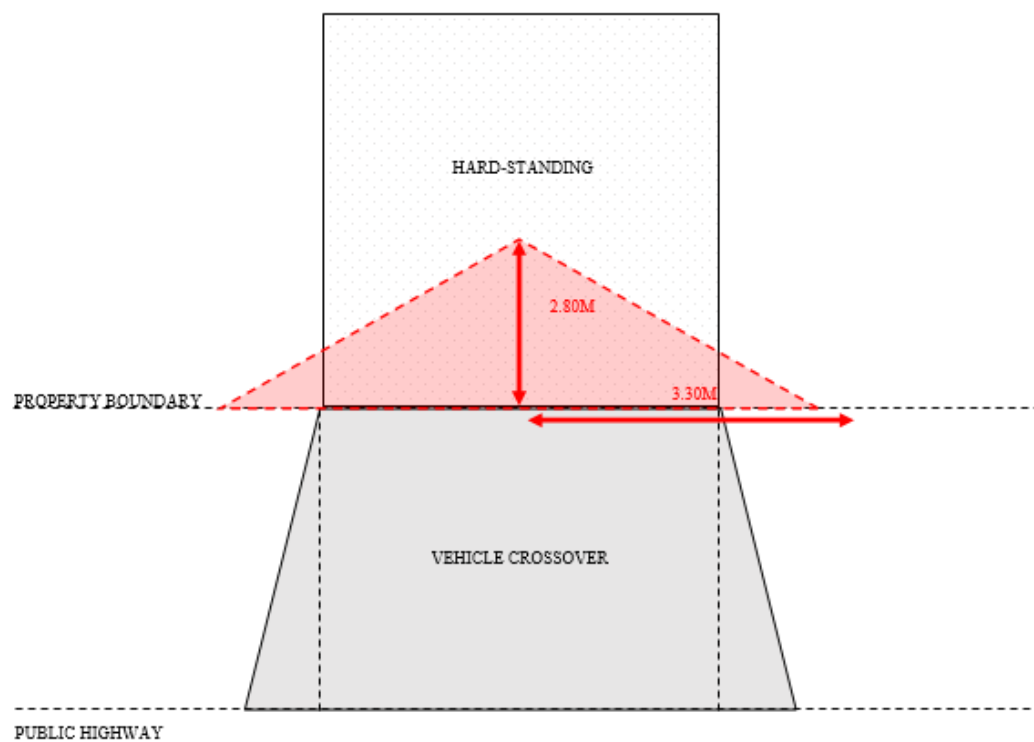

Figure 3: Required Horizontal Pedestrian Visibility Splays.
- Figure 3: Required horizontal pedestrian visibility splays
- c) **Visibility Requirements** - In order to provide adequate safety to users of the public highway and the users of the vehicular crossover adequate visibility is required when entering and leaving the off-street parking space. The visibility splays required are shown in Figures 3, 4 and 5, below. The visibility required is an area measuring **2.8m** from the back of the footway boundary centrally and **3.3m** along the back of the footway boundary in each direction. This will create a safety zone to provide a driver adequate visibility to enter/leave from the parking area. It is also necessary to ensure that the driver can see anything over **600mm** in height from their driving position when entering/leaving the site to prevent injury to children. If there is insufficient pedestrian, driver and/or vehicle visibility sightlines the application will be refused, as approving the application will compromise public safety and/or the passage of traffic on the highway. Any boundary walls, shrubs, treatments etc. are to be no higher than 1.0m in height.